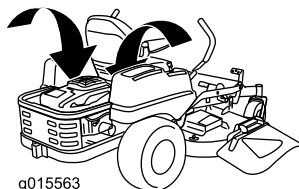
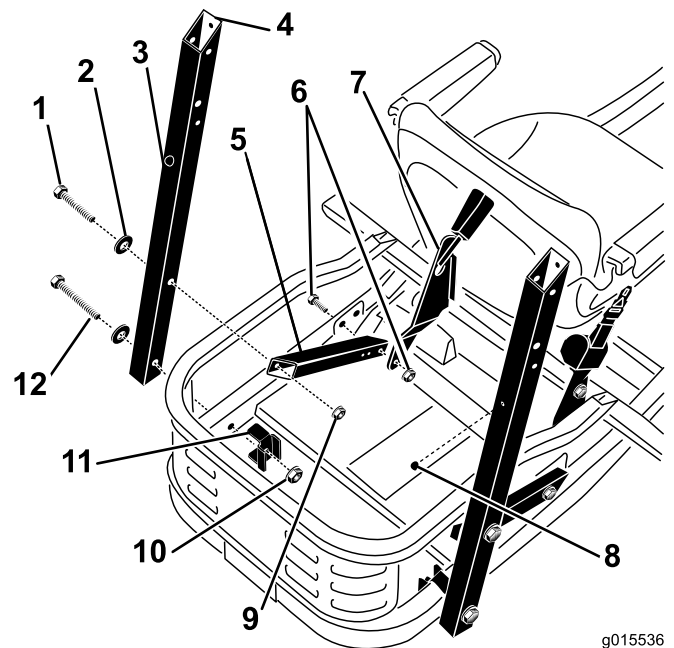
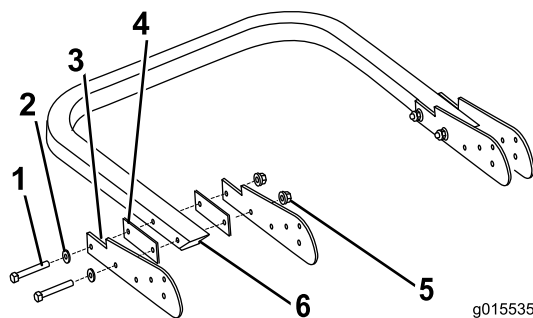

Figure 3
Figure 4
Figure 5
1. Locate the factory installed brace attached to the frame between the engine and the rear wheel (see Figure 3 and Figure 4).
2. Loosen the locknut that secures the brace to the frame. Stop when the brace swings freely (Figure 4).
3. Attach the rollbar support to the frame and the brace to the rollbar support as shown in Figure 4. Leave the bolts loose enough that the parts are free to shift around.
Assemble the pivot brackets to the rollbar as shown in Figure 5. Leave the bolts loose enough that the parts are free to shift around.
1. Tighten the fasteners in the order specified in the following table. Figure 4 and Figure 5 will help identify the parts.
- If necessary, install both small rubber bumpers. Press the small flange on the back of each into the holes on the back of the rollbar supports (Figure 4).